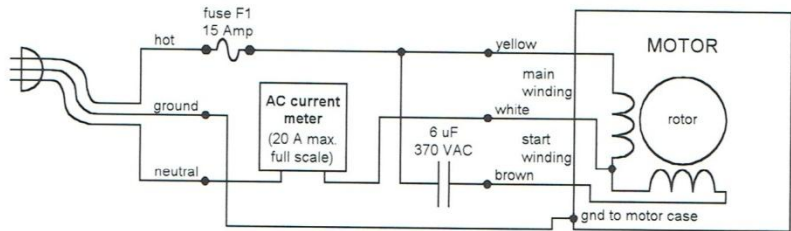

Figure 8.
1. With the AC power cord unplugged, make the connections as shown in Figure 8.